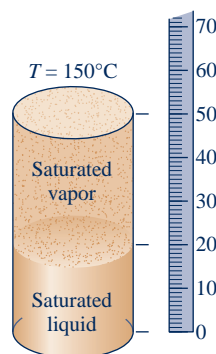

Fig. P3.21
3.21 As shown in Fig. P3.21, a closed, rigid cylinder contains different volumes of saturated liquid water and saturated water vapor at a temperature of 150°C . Determine the quality of the mixture, expressed as a percent.